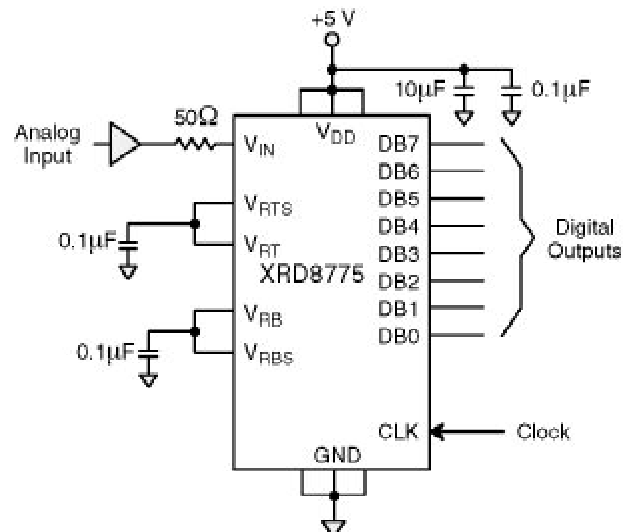

Figure 5. Typical Circuit Connections
- See V_{IN} input equivalent circuit (Figure 5). Switched capacitor analog input requires driver with low output resistance.
The reference can be biased internally by shorting V_{RT} to V_{RTS} and V_{RB} to V_{RBS} . This will generate $0.6V$ at V_{RB} and $2.6V$ at V_{RT} (see *Figure 5*).